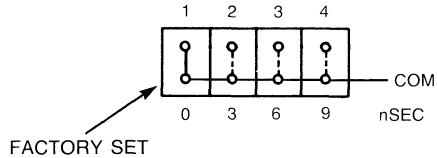

Figure 5. EOC Selection Chart
12. An EOC signal output is available through a delay circuit in order to optimize timing with any external circuits. Four delay steps of 3 nanoseconds each are available. The delay time is set at zero nanoseconds at the time of shipment. Figure 5 shows jumper positions to set the EOC delay time.